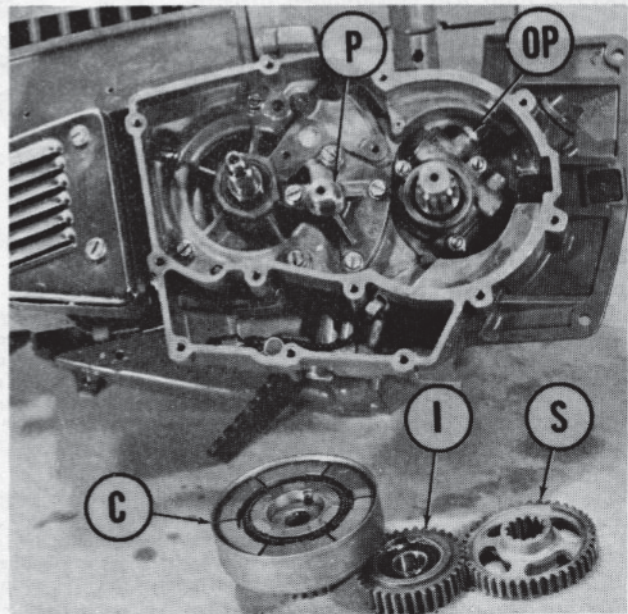

Fig. HL68-View of gearcase with clutch, idler gear and sprocket gear removed.
HL67. Thrust bearing (75) and clutch drum (76) can now be removed. Drum sleeve bearing (29—Fig. HL64) can be removed if necessary. Turn nut (19) clockwise to remove and lift idler gear assembly (16) off idler post (11). Bearing (17) can be removed from idler gear after removing snap ring (30). Remove retaining ring (14) and pull sprocket gear (13) from sprocket shaft (10). See Fig. HL68.
Gear drive models XP-1100, XP-1130A, Super XP-1130A, 1130G and 3100G are equipped with an automatic chain oil system and pump located in gearcase shown in Fig. HL68. Refer also to exploded view in Fig. HL64.